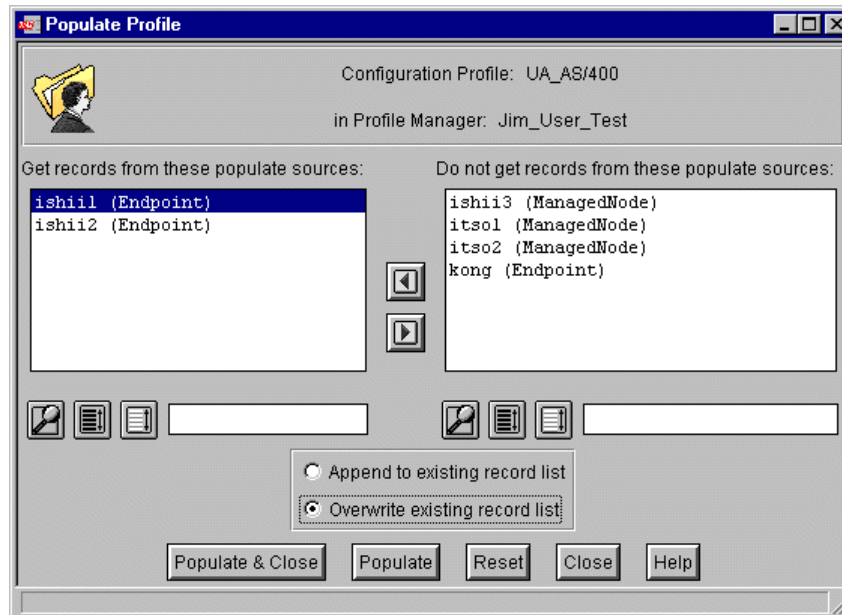

Figure 307. Populating the User Administration database
3. Before setting up a new template, we need to populate the User Administration database with our existing AS/400 user profiles. To do this, select the **Populate...** option from the Profile menu as shown in Figure 307.